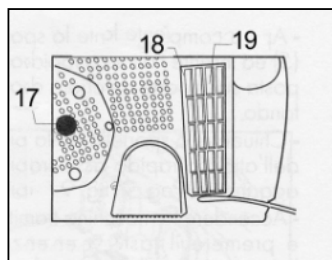

Fig. 16
Clean the vacuum filter (18) at regular intervals. To do so, disengage the filter cover (19), fig. 16. Shake the filter and wash it with clean water if necessary. Reposition the filter in its seat and refit the filter cover (19).